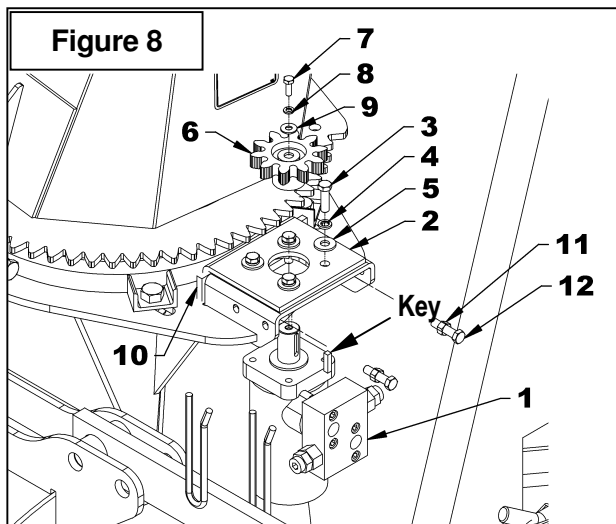

Figure 8
5. Cut the guard a second time leaving the same distance between the end of the guard and the end of the shaft as existed before. To obtain the proper distance "A" shown on Figure 8, cut the guard according to the following table:
1. **Figure 8:** Install the motor (item 1) placing the anchor plate on top (item 2) as shown on figure. Attach with four 3/8"NC x 1 1/4" (item 3) hex. bolts, lockwashers and flat washers (items 4-5). Tighten manually.
2. **Figure 8:** Install the motor gear (item 6) with the key, 8mm x 20mm bolt (item 7), lockwasher and flat washer (items 8-9). Tighten according to the "**Torque Specification Table**".
3. **Figure 8:** Insert the anchoring flat bar (item 10) between the anchor plate (item 2) and the motor support as shown on figure. Screw the 3/8"NC nuts (item 11) at maximum on the two 3/8"NC x 1 1/2" lg bolts (item 12). Install those two bolts (item 12) by screwing them in the anchoring flat bar (item 10).